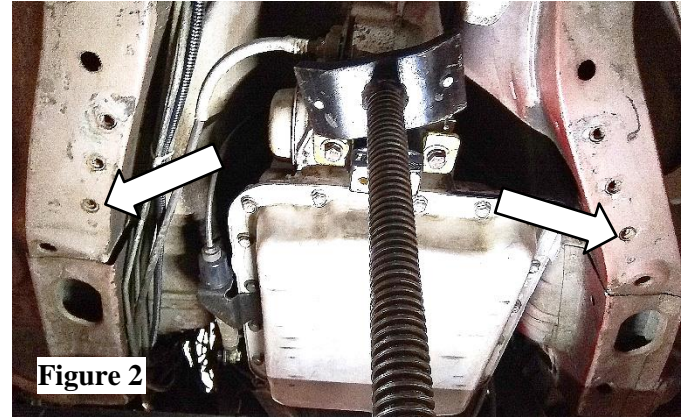

Figure 2
1. Thread an M10 x 1.5 tap through the front two holes of the factory transmission crossmember mounts. **(Figure 2)** These holes are threaded from, but not used by the factory so they may be slightly corroded.